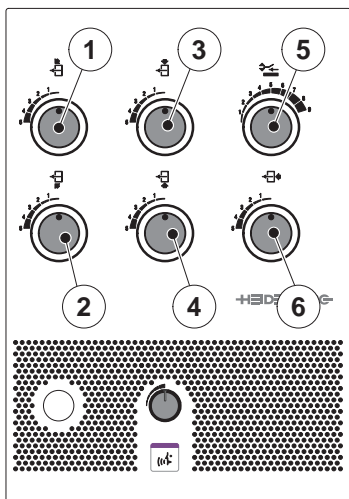

Fig. 44 Feeder air control control panel
2. Using the control knob Fig. 44/5), move the guide plate down.